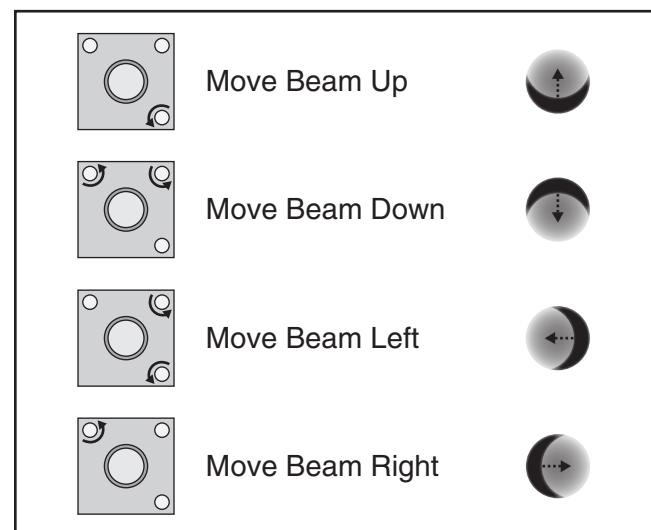

Figure 132. Mirror thumbscrew adjustment.
23. Adjust direction of beam path by tightening thumbscrews depending on desired direction of beam travel (see **Figure 132**).